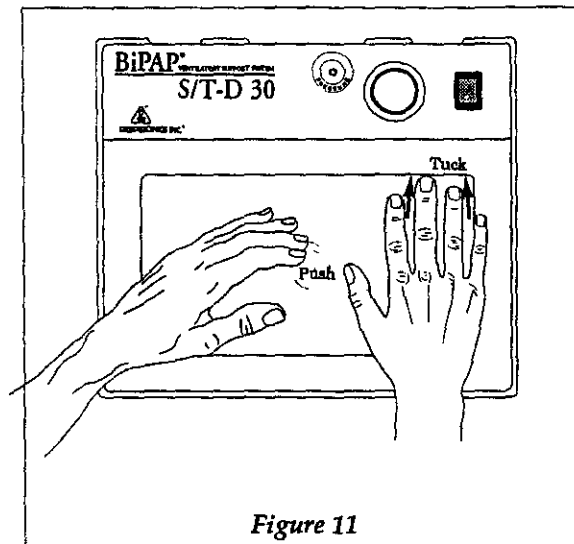

Figure 11
- Step 4 Center a new filter over the filter holder. Carefully push in on the center button and tuck the filter in on all four sides. See Figure 11.